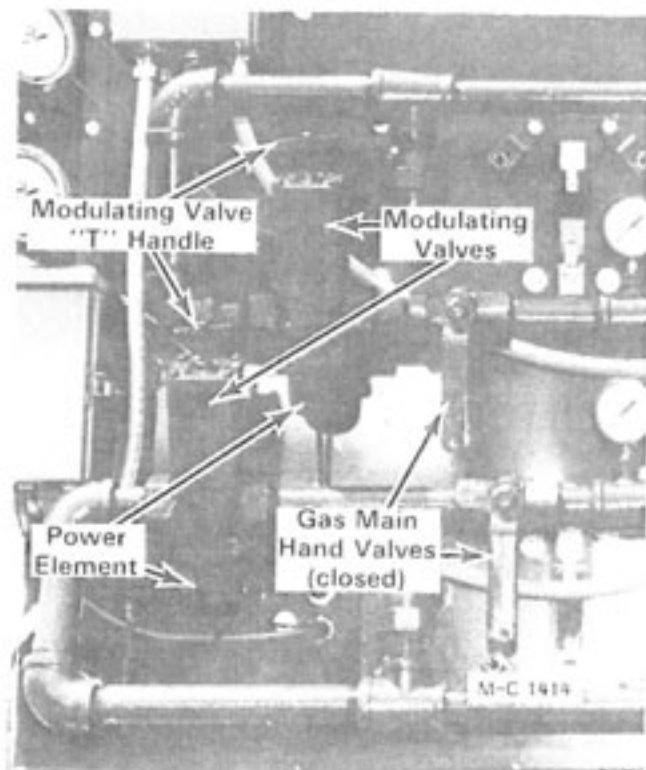

Figure 3 - Two Burner Controls
3. Close the gas main hand valve for each burner (handle 90° to the piping), see Figure 3.
4. Check the modulating valve in each burner gas manifold to be sure the "T" handle has not been turned all the way in to the wide open position, see Figure 3. The "T" handle should be halfway between the closed and fully open position.